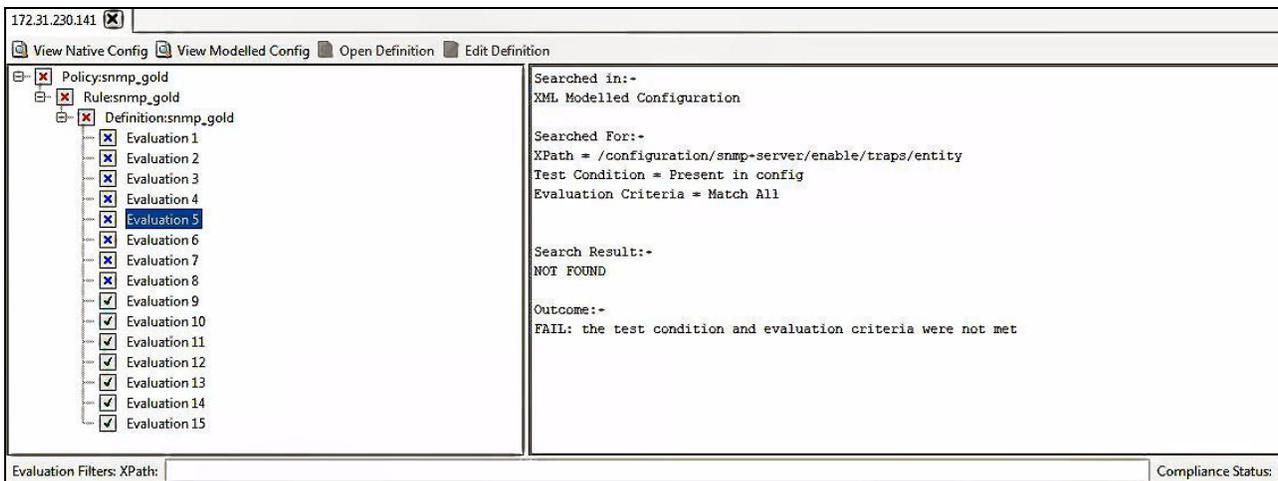

Figure 4-21 Evaluation failure
- Select an evaluation from the pane on the left side to show the details of the pass or fail results for that evaluation, as shown in Figure 4-21.
- You also can use the Evaluation Filters: XPath: search feature at the bottom of the pane (see Figure 4-21) to search for particular items. This feature is useful in large configurations when you are trying to find certain evaluation results. You can also filter on Status or increase or decrease the evaluation row count.